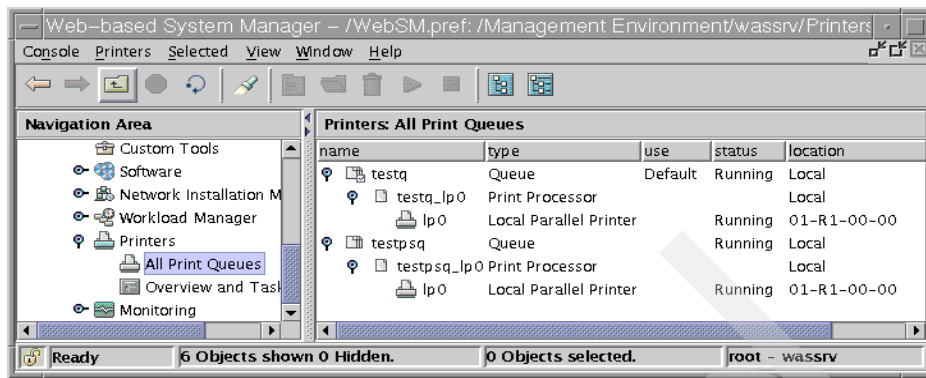

Figure 39. Checking two queues
18. Now, you can see two queues in the Web-based System Manager panel shown in Figure 39 on page 216.